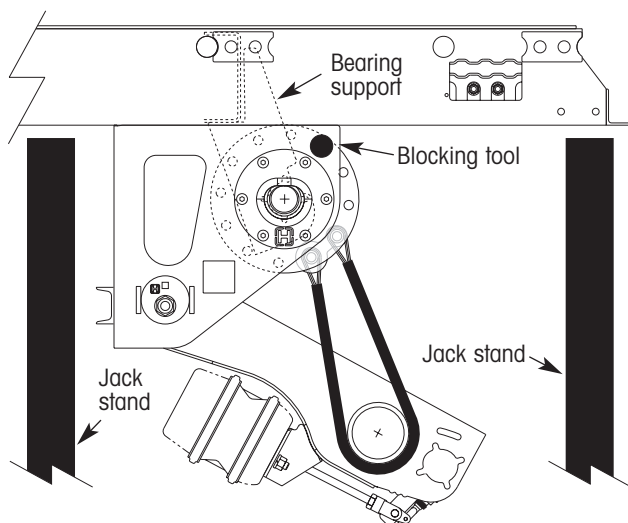

Figure 29. Place jack stands under the trailer body and insert blocking tool
4. Secure the trailer body in the raised position. Place jack stands, adjusted to approximately the same height as the raised trailer, under the trailer body (figure 29).
5. Insert the two-piece blocking tool (figure 1) into the flange plates in front of the bearing support (figure 29). Choose the pair of flange plate holes that are as close to the bearing support as possible, yet still allow you to easily insert the blocking tool. Center the steel tube between the flange plates as shown in figure 2.